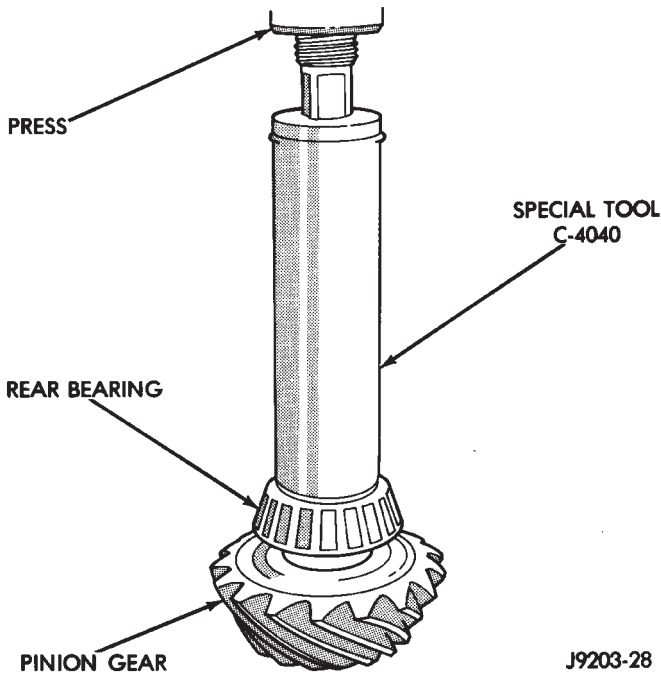
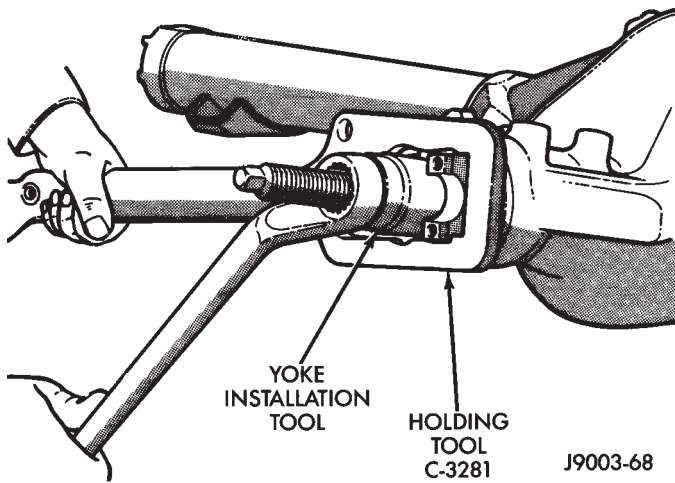

Fig. 23 Shaft Rear Bearing Installation
Fig. 24 Pinion Yoke Installation
(11) Remove tools from differential housing.
(12) Position depth shim(s) on the pinion gear. Install rear bearing with Installer C-4040 (Fig. 23). Be sure the contact surfaces are clean and without foreign particles.
(13) Lubricate pinion gear front and rear bearings with gear lubricant.
(14) Install pinion gear into the housing. Install new collapsible spacer at the end of the pinion gear. Install pinion gear front bearing.
(15) Install pinion yoke with Remover/Installer C-3718 and Wrench C-3281 (Fig. 24).
It is necessary to use the tools (above) to correctly seat the front bearing on the drive pinion gear shaft (Fig. 24).